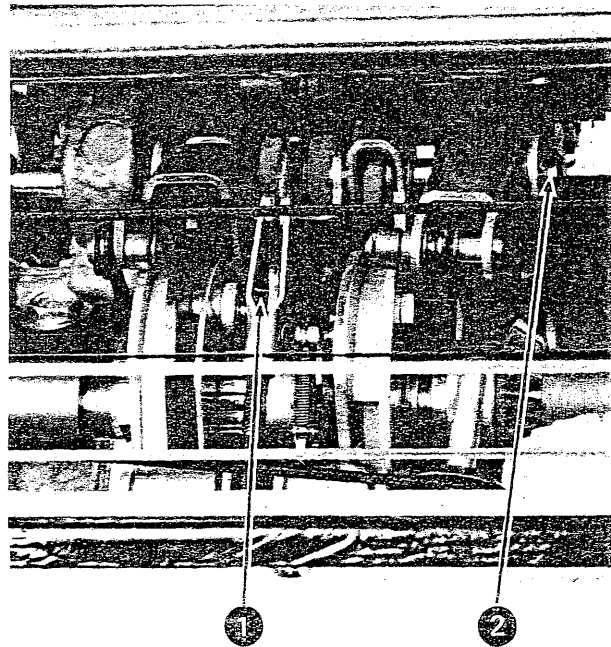

Figure 4-42. Operational-Cam-Check-Pawl and Escapement-Cam-Follower Removal
2. Disconnect the escapement link (No. 1, Figure 4-42).
3. Remove all C-clips from the check-pawl shaft (No. 2, Figure 4-42).